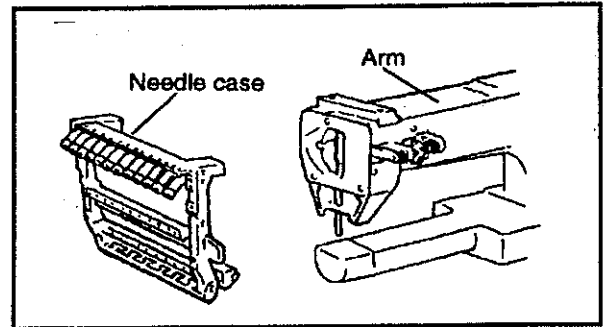

FIG.1
(1) Position the needle bar at the top dead center. Allow the needle case to pass under the needle bar and attach the case to the arm, while supporting the case with your hand (Fig.1).